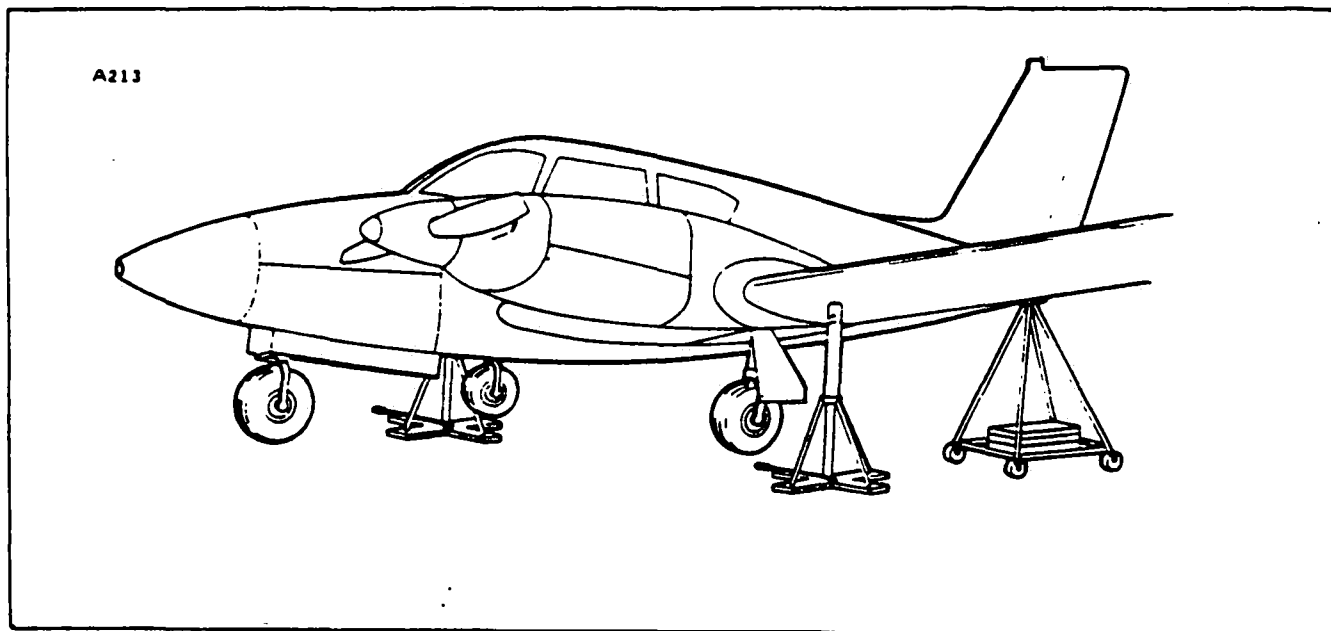

Figure 2-9. Jacking Arrangements
**2-12. JACKING.** The airplane is provided with a jack pad on each main spar just outboard of the engine nacelle and a support position by making use of the tail skid. (Refer to Figure 2-9.) To jack the airplane, proceed as follows: